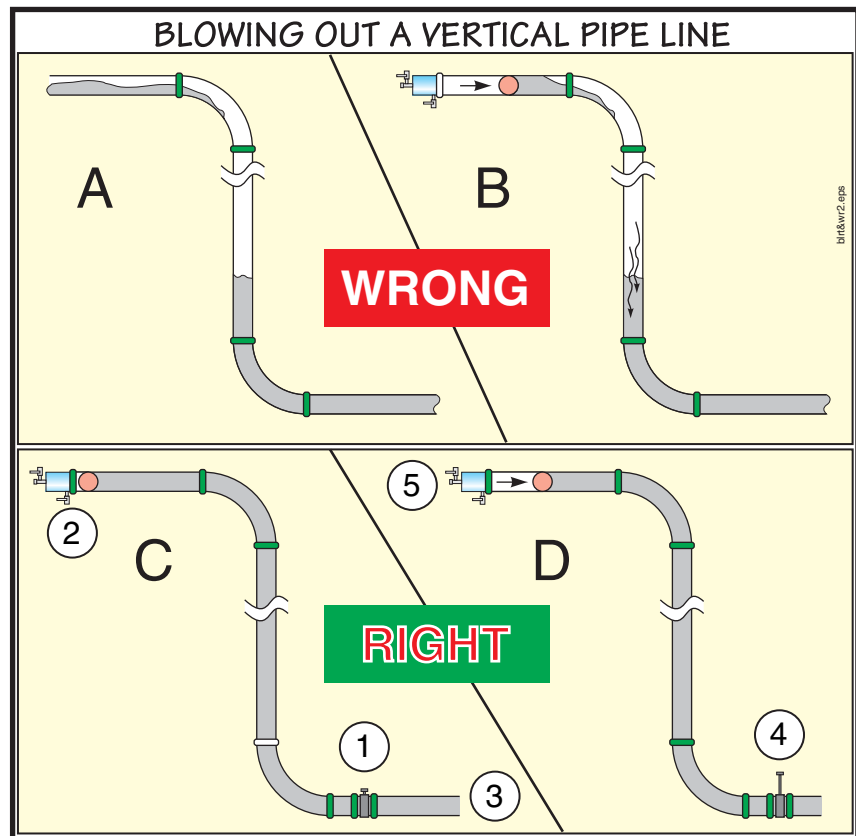

Figure 31
1. (See diagram A in Figure 31.) Without a shutoff valve installed, the pipeline is disconnected from the pump. Immediately, the concrete drains out of the vertical sections of pipe, leaving concrete in both horizontal sections, and air trapped in between.
2. (See diagram B in Figure 31.) The ball is inserted, and pushed with compressed air. This also compresses the air that is trapped in the vertical sections of pipe. The trapped air will be violently expelled when it reaches the end of the pipe, but the pipe will not yet be empty.
4. **When pumping is complete, close the shutoff valve before disconnecting the pipeline from the pump** (item 1, Figure 31). Failure to do this will cause the concrete to fall out of the vertical sections of pipe, leaving concrete in the horizontal sections of pipe and an air pocket in the vertical sections. This does not apply if you are using a switching (diversion) valve.
5. Install the ball(s) in the pipeline, secure the blow out head and hook up the air compressor. **Do not apply the air yet!** (Item 2, Figure 31.)
7. **Position the ready mix truck at the cleanout standpipe,** or install the ball catcher or other containment device at the end of the discharge line. (Item 3, Figure 31.)
9. **Divert the vertical pipe line to the clean out area and secure the discharge (Figure 32), or open the shutoff valve in the delivery pipe line now.** Allow gravity to start the concrete moving through the discharge line. As the concrete falls from the vertical sections, it will take the ball with it, making it impossible to trap air in the line. (Item 4, Figure 31.)
10. **Apply the compressed air to the pipeline.** Close communications must be maintained at this time. Add only enough air to keep the concrete moving. Do not allow the concrete to accelerate. (Item 5, Figure 31.)